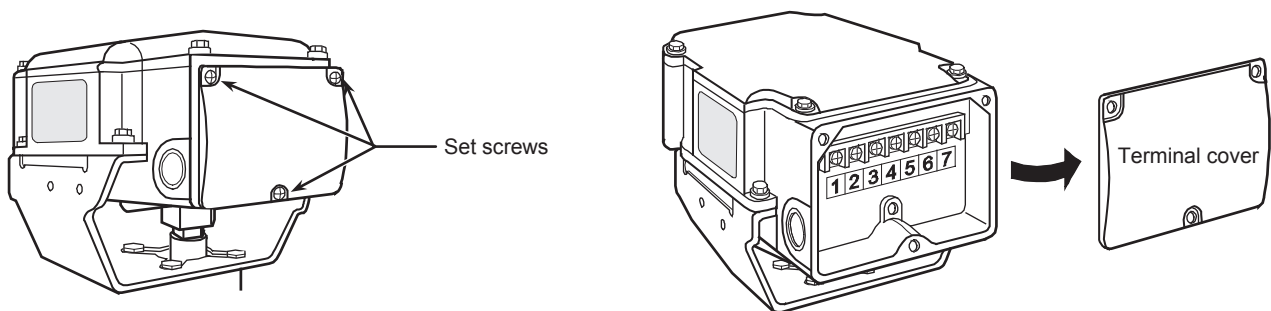

Figure 10. Terminal cover removal
2) Unscrew the 3 setscrews (M4 × 10) of the terminal cover and remove the terminal cover, as shown in Fig. 10.